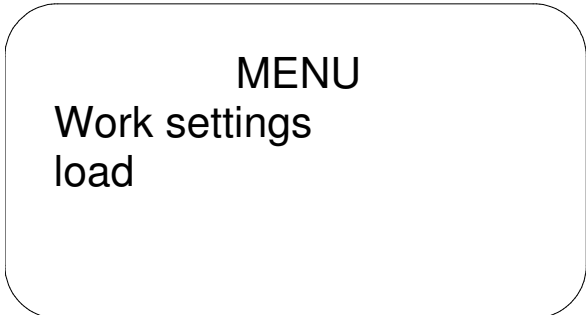

Fig. 22
- Now the first submenu "Work settings load" is shown on the display (fig. 22).
- Now "Work settings load" is always shown as the first submenu on the display (fig. 22).